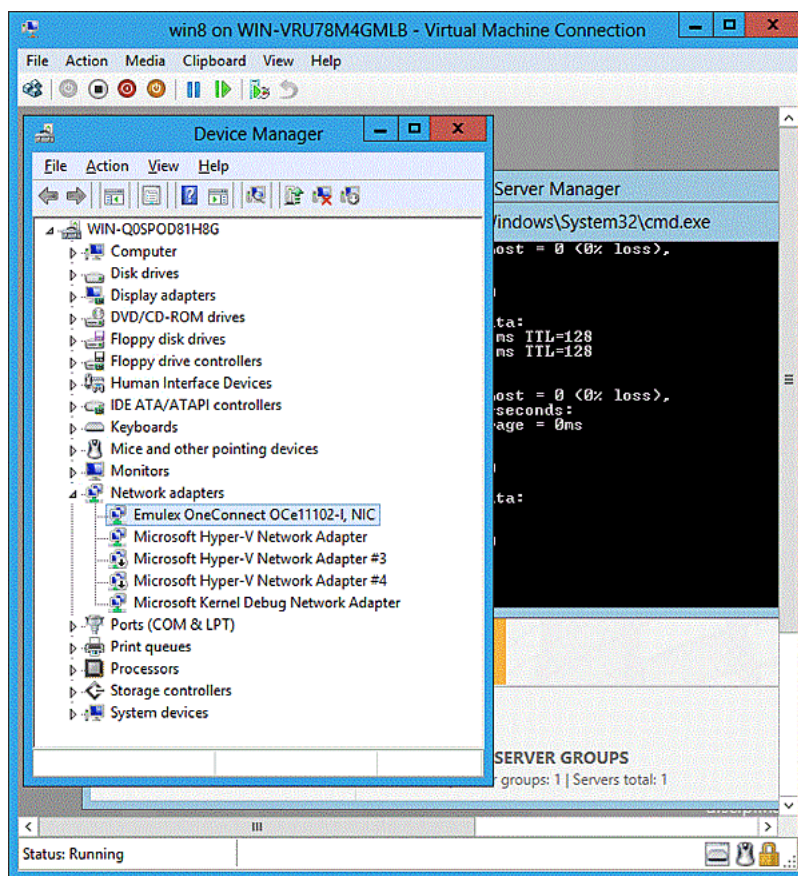

Figure 3-4 Device Manager for Windows Server 2012
2. Click **Device Manager**. The Device Manager opens. See Figure 3-4 on page 65.
2. Click **Device Manager**. The Device Driver opens. See Figure 3-4 on page 65.